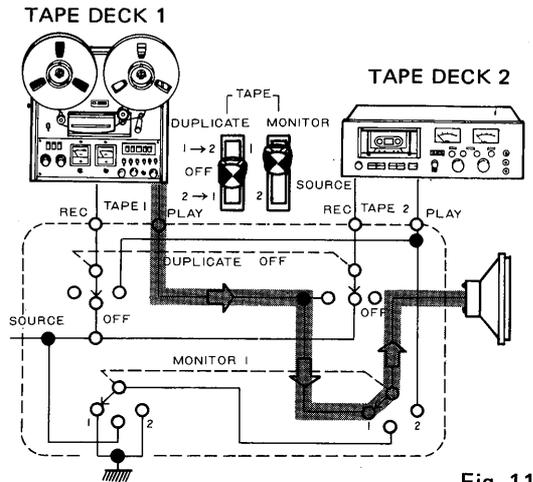

Fig. 11
1. Set TAPE MONITOR switch to 1 if the tape deck is connected to the TAPE 1 jacks or to 2 if it is connected to the TAPE 2 jacks (see Fig. 11).